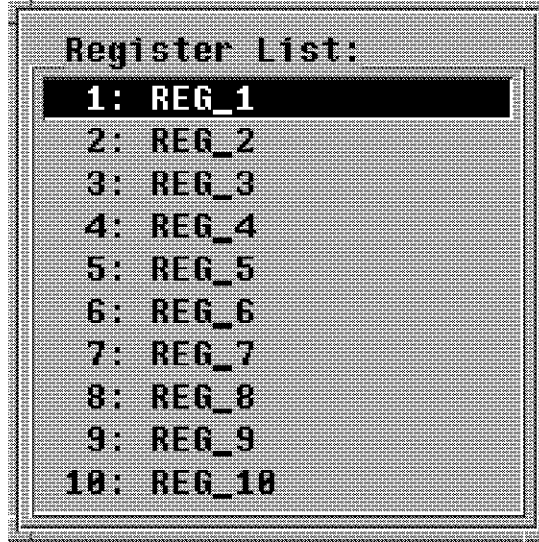

Figure 4-11 Register List Display
- {CURSOR ↑} : ] Shifts the cursor up/down of the register list (Figure 4-11)
- ⑤ Character editing menu